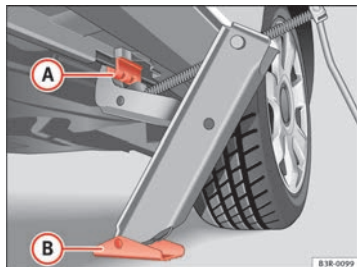

Fig. 185 Changing the wheel: Jack
- Align the jack so that the arm of the jack fits on the rib under the door sill ⇒ fig. 185 **A** and the movable base plate of the jack **B** is flat on the ground.